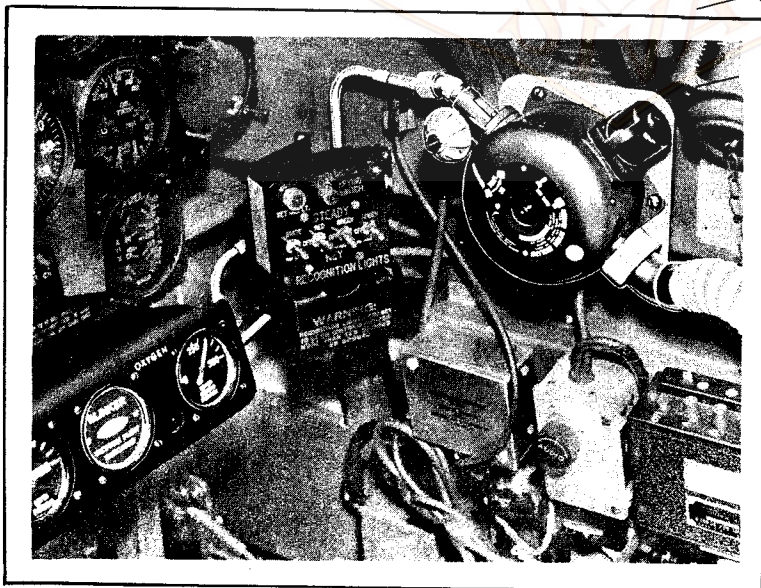

Figure 26—Oxygen System Controls
*a. GENERAL.*—Breathing oxygen is supplied from five type D-2 and two type F-1 cylinders located in the fuselage aft of the cockpit. (See figure 27.) An oxygen demand regulator is located to the pilot's right on the cockpit wall. A pressure gage and flow indicator are mounted on a sub-panel to the right of the instrument panel. (See figure 26.) The cylinders may be charged through the oxygen filler valve located on the fuselage left side aft of the cockpit.